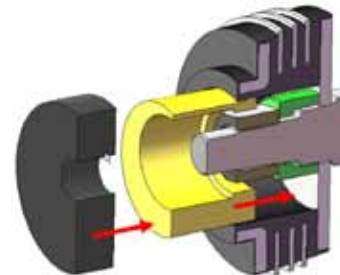

Figure 10
- f. Install supplied steel bushing into rubber mount and over shaft spacer and nut (shoulder in bushing hole inboard). Figure 10
- g. Install urethane bushing to shaft end. Figure 10